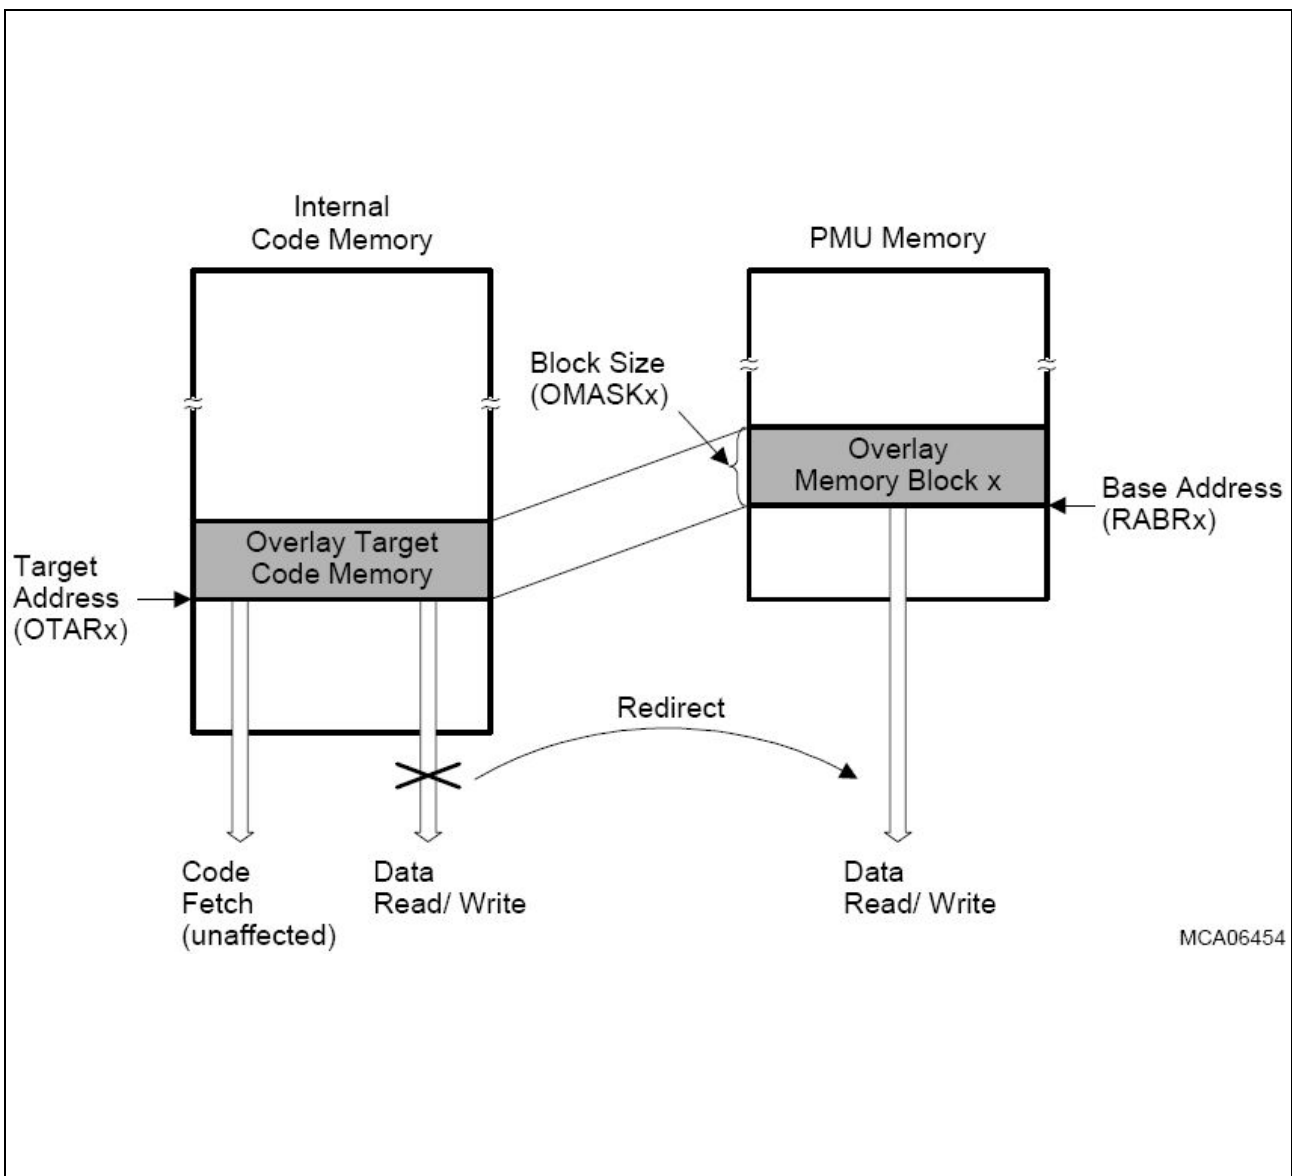
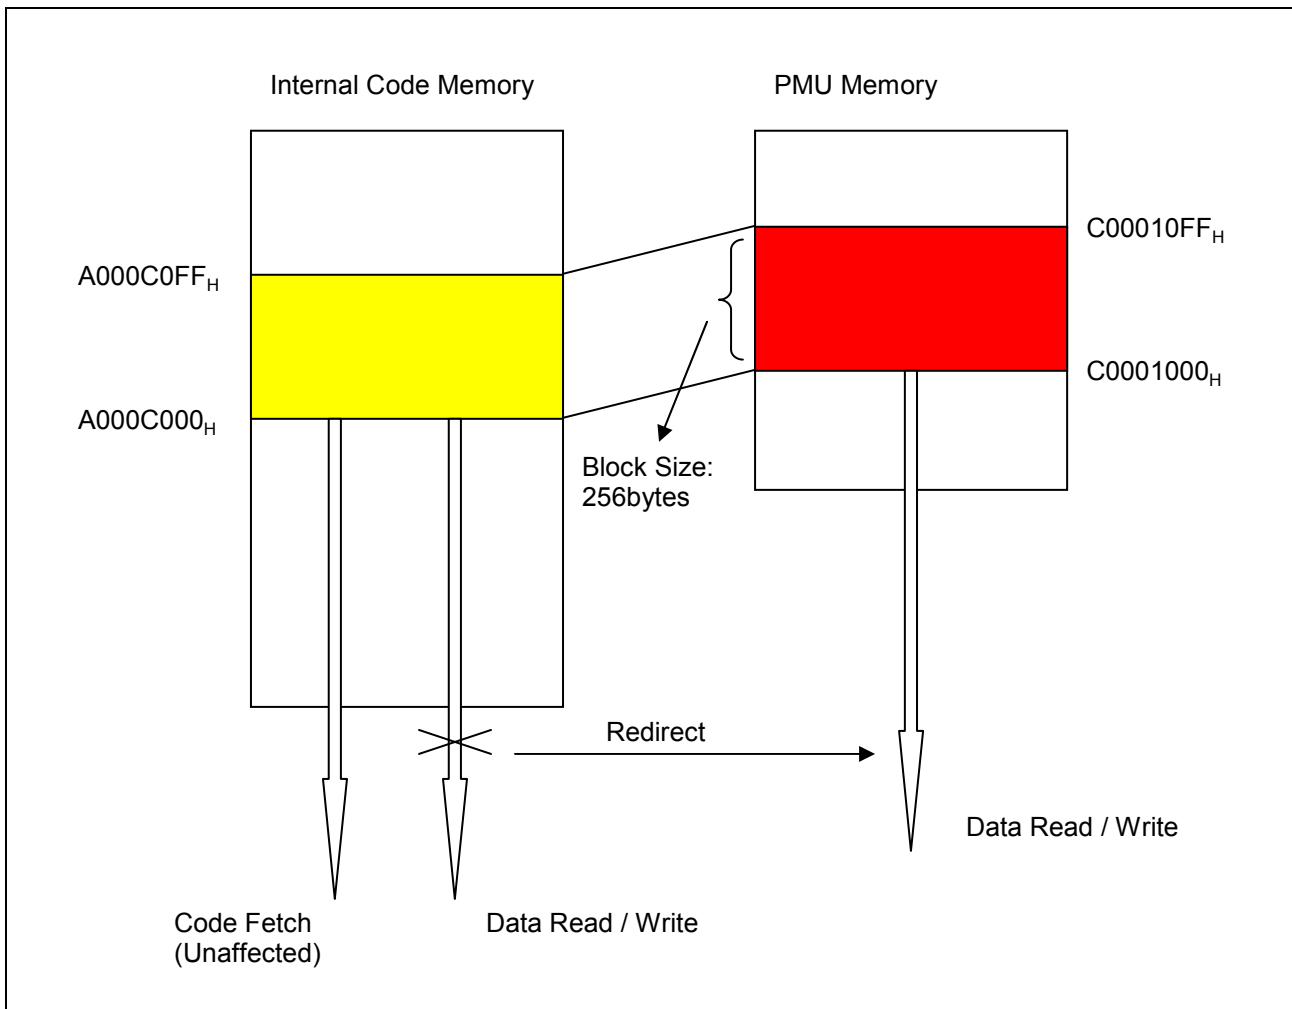

Figure 1 Redirection of Data Read Accesses from Code Memory to PMU SRAM (Internal Data) Memory
Figure 2 An Example on Redirection of Data Read Accesses from Code Memory to PMU Memory
This document provides a method for overlaying code memory onto data memory with an example code. This method is primarily intended for the AUDO-NG Family with Overlay memory. An overview of this functionality is shown in Figure 1. An example is shown in Figure 2.
- The overlay target address in the Overlay Target Address Register OTAR_x (x = 0-15), which determines the base address of the code memory data block x to be redirected (i.e. 0xA000C000, as shown in Figure 2)
- The base address of the overlay memory block in the PMU SRAM in the Redirected Address Base Register RABR_x (i.e. 0xC0001000, as shown in Figure 2)
- A mask in the Overlay Mask Register OMASK_x, defining the size of the block, the address bits to check for an address match, and which bits are used from the target address and which from the redirected address base (i.e. 0x0FFFFFF00, 256bytes, as shown in Figure 2)
The example code is generated using Digital Application virtual Engineer (DAVE) for TC1766. It is compiled using Tasking EDE v2.5r2. The code is located inside the program flash (0xA0000000). When running the code on the TC1766 TriBoard / StarterKit, the onboard LED will also be toggling periodically. With the overlay control registers configured / enabled, although the code is writing data (0x00 – 0xFF) to program flash address of 0xA000C000 – 0xA000C0FF, the actual data are written to SRAM address of 0xC0001000 – 0xC00010FF (refer to Figure 2).